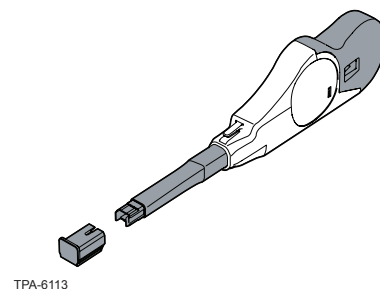

Figure 3
4.2 The use of an MTP Connector and Port Cleaning Tool to clean MTP connectors and ports before each mating is recommended (Figure 3).